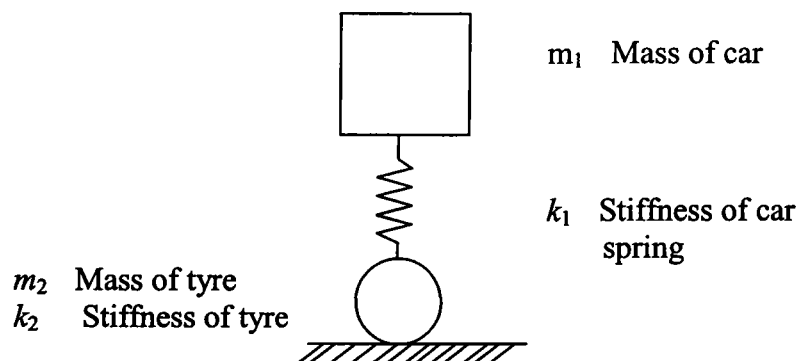

Figure Q3[a]
- Q3. [a] A model of a vehicle suspension system is given in Figure Q3[a] with the following properties: mass of car is 2000 kg; mass of tyre is 50 kg; stiffness of car spring is 10^3 N/m; and stiffness of tyre is 10^4 N/m. Ignore the mass of the car spring.